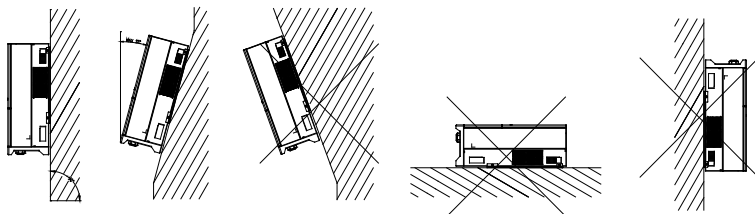

Figure 4.1 Mounting Method
Please mount the inverter correctly as shown in Figure4.1 below.
- ① The equipment employs natural convection cooling, and it can be installed indoor or outdoor.
- ② Please install the equipment under the guidance of Figure4.1. Vertical installation on floor level is recommended. Mount vertically or tilted backwards by max. 15°. Never install the inverter tilted forward, sideways, horizontally or upside down.
- ③ Considering convenience for maintenance, please install the equipment at a position in parallel with line of sight.
- ④ When mounting the inverter, please consider the solidity of wall for inverter, including accessories. Please ensure the Rear Panel mount tightly.